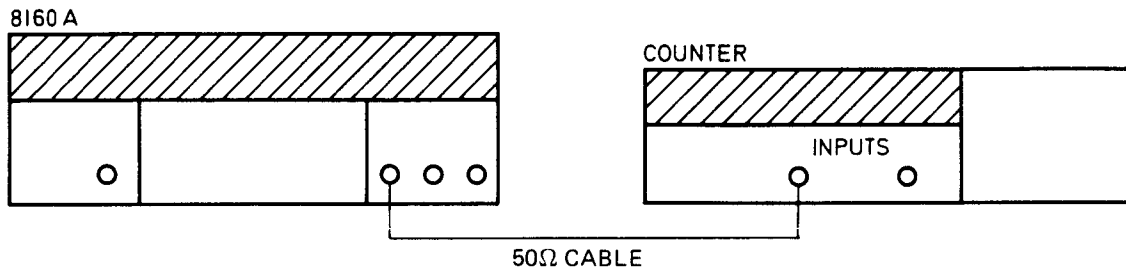

Figure 4-1. Frequency Test Set-up.
1. Connect equipment as shown in fig. 4-1.